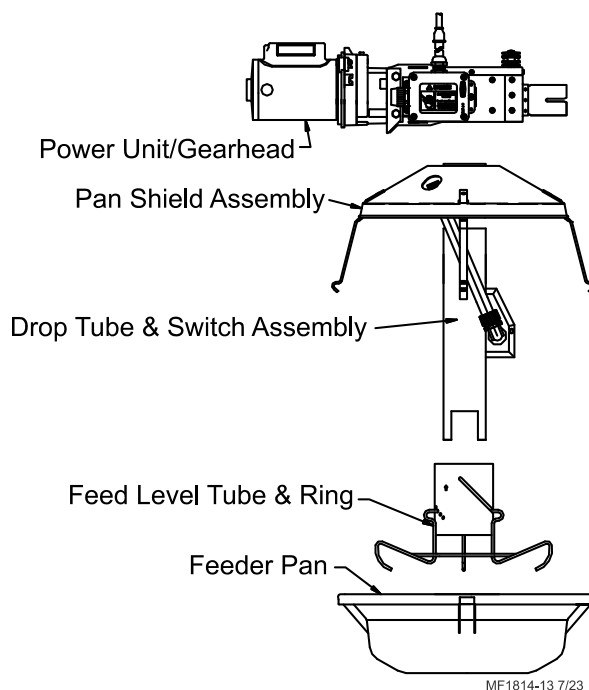

Figure 29. Drop Tube and Switch Assembly
5. Insert the Drop Tube and Switch Assembly through the Pan Shield from the bottom, **see figure 29**. The hole in the Pan Shield should be located on the same side of the Drop Tube as the Switch Cord and directly under the white box on the body assembly. Bolt the Drop Tube to the Body Assembly. The switch on the Drop Tube should be mounted opposite the Power Unit.